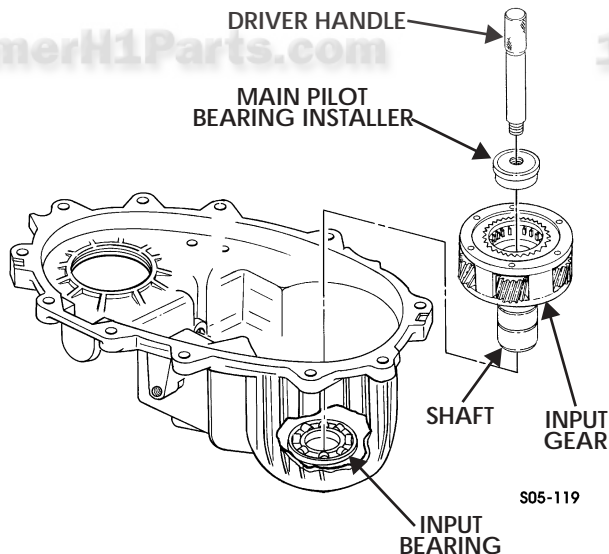

Figure 5-172: Pilot Bearing
2. Using main pilot bearing installer and driver handle, press on input gear until gear is seated in input bearing (Figure 5-172).